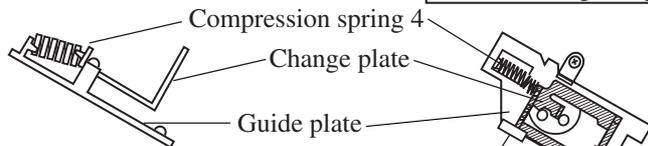

Fig. 22B
2. Set compression spring 4 assembled on change plate, to guide plate as illustrated in Fig. 22B